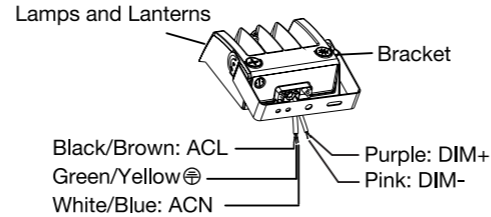

Figure 4.3
STEP 2: Finish the wire connection according to the right mode of connection (pay attention to positive wire, negative wire, and ground wire).(Figure 4.3)